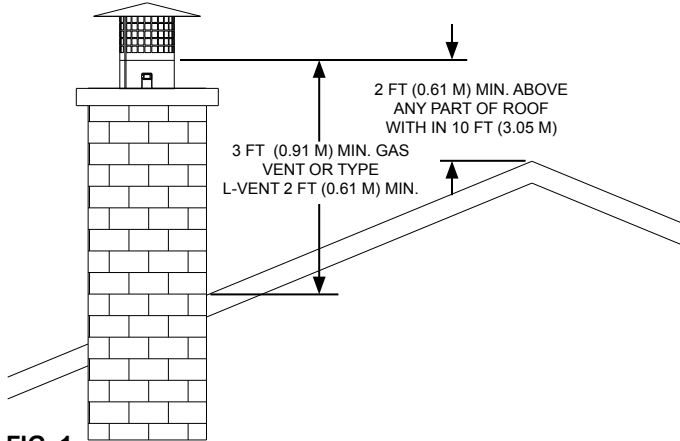

FIG. 1
6. Termination of the masonry chimney above the roof will need to meet NFPA 211 requirements. Chimneys are required to be at least 3 ft (0.91m) above the highest point they pass through the roof, and at least 2 ft (0.61m) higher than any part of the structure within a 10 ft (3.05m) radius (See FIG. 1).